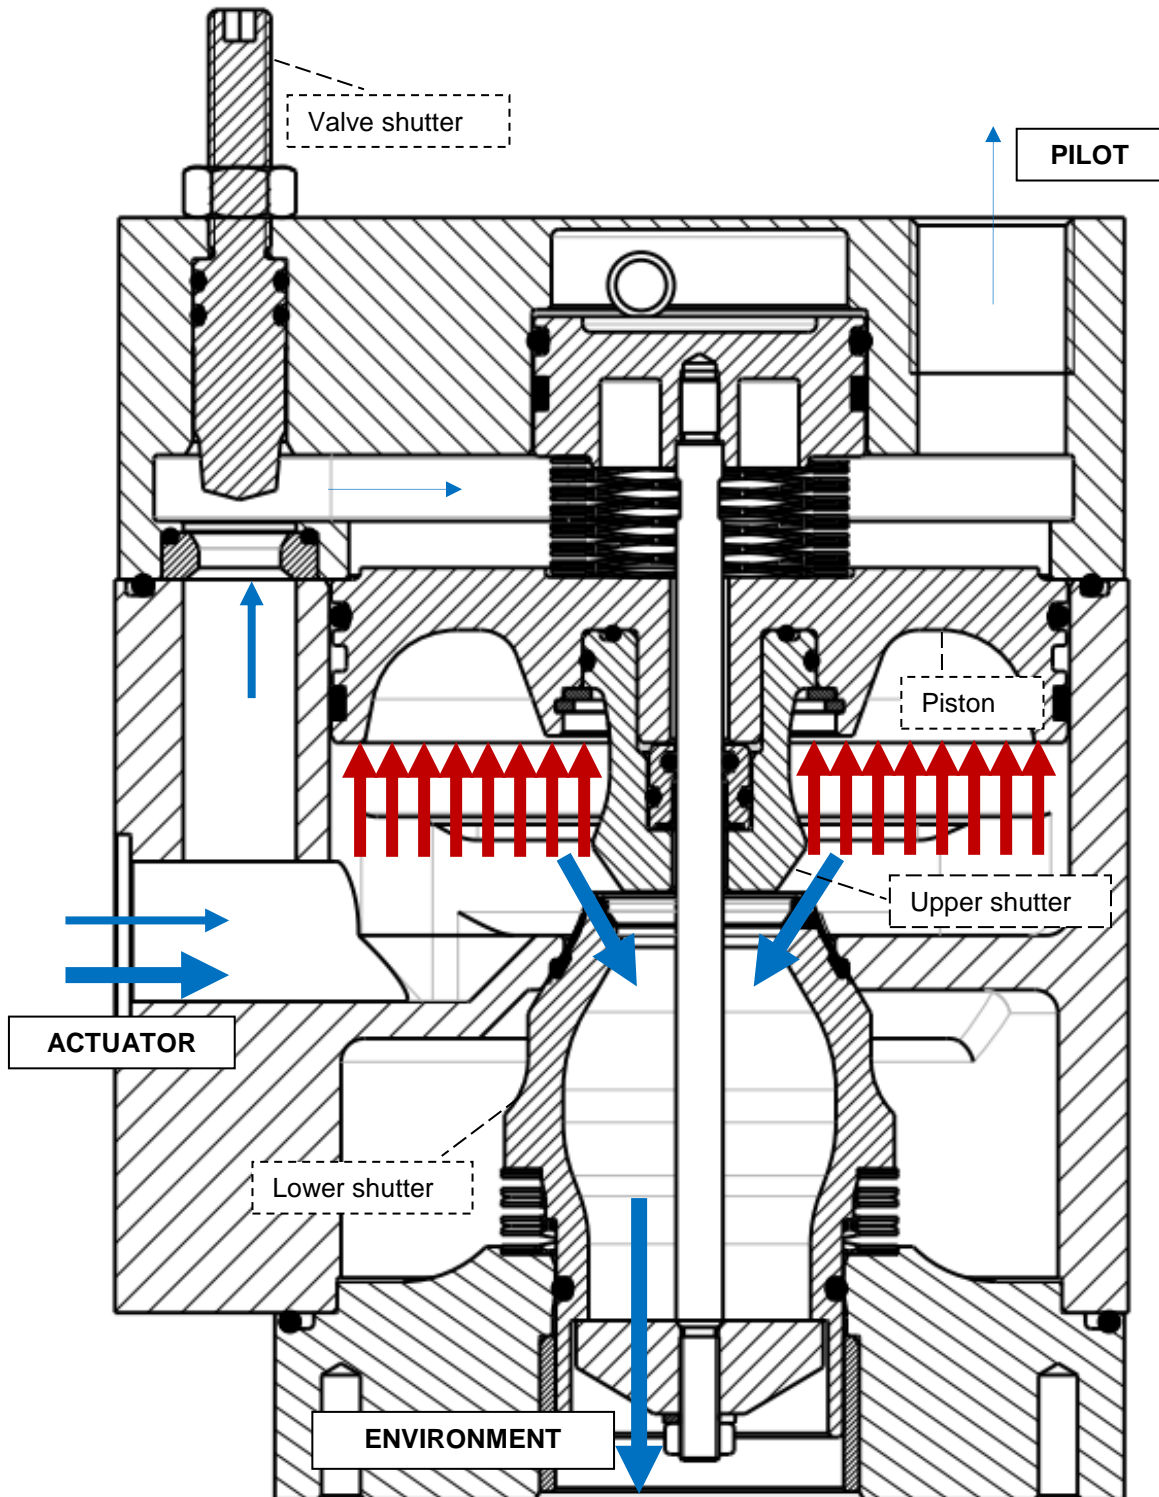

Figure 9 - discharge setup: on-off mode
- c) if the flow rate is much greater than a threshold value depending on valve shutter adjustment, the valve shutter throttling generates a pressure drop between the two side of the piston and the working fluid pushes up the piston, allowing the connection between the actuator chamber and the exhaust chamber. In this case the upper shutter generates the greatest flow section available because the piston reaches its upper stroke limit. This case is called "on-off mode" (figure 9).